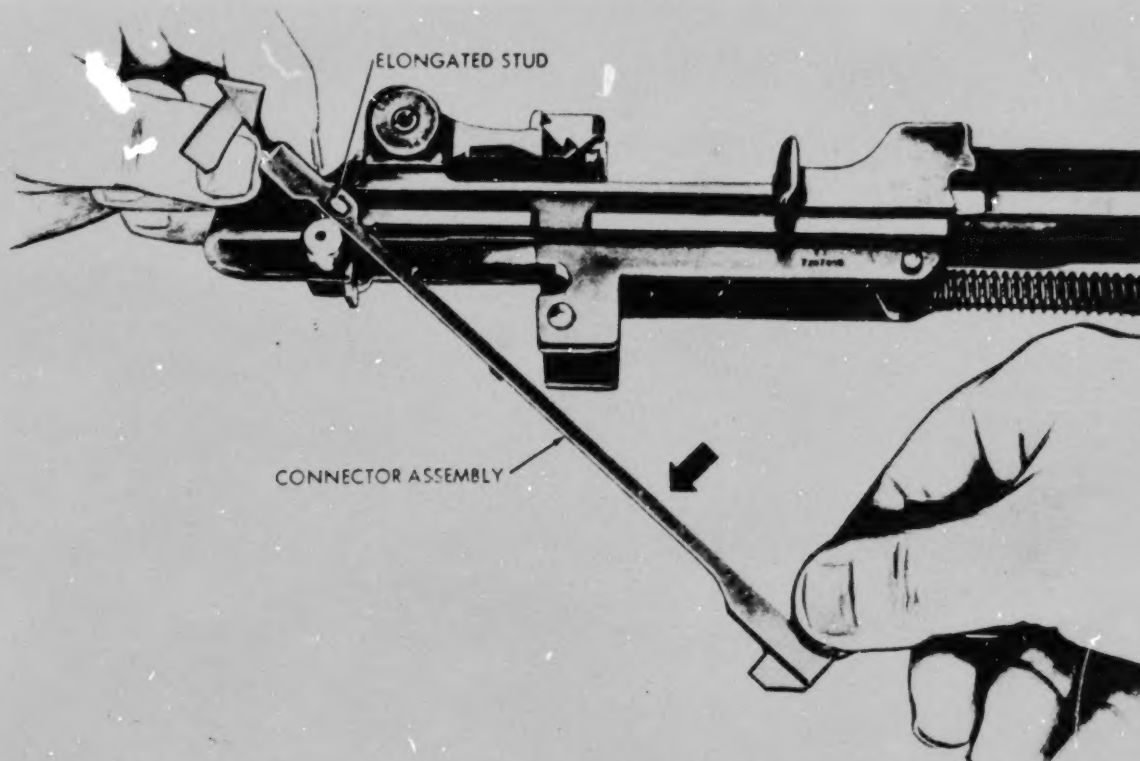

Figure 4-22.—Removing connector assembly.
4. Rotate the connector assembly about 35 degrees clockwise, until the slot at the rear is aligned with the elongated stud on the sear release (see fig. 4-22); then lower the front end of the connector assembly and lift it off the sear release.